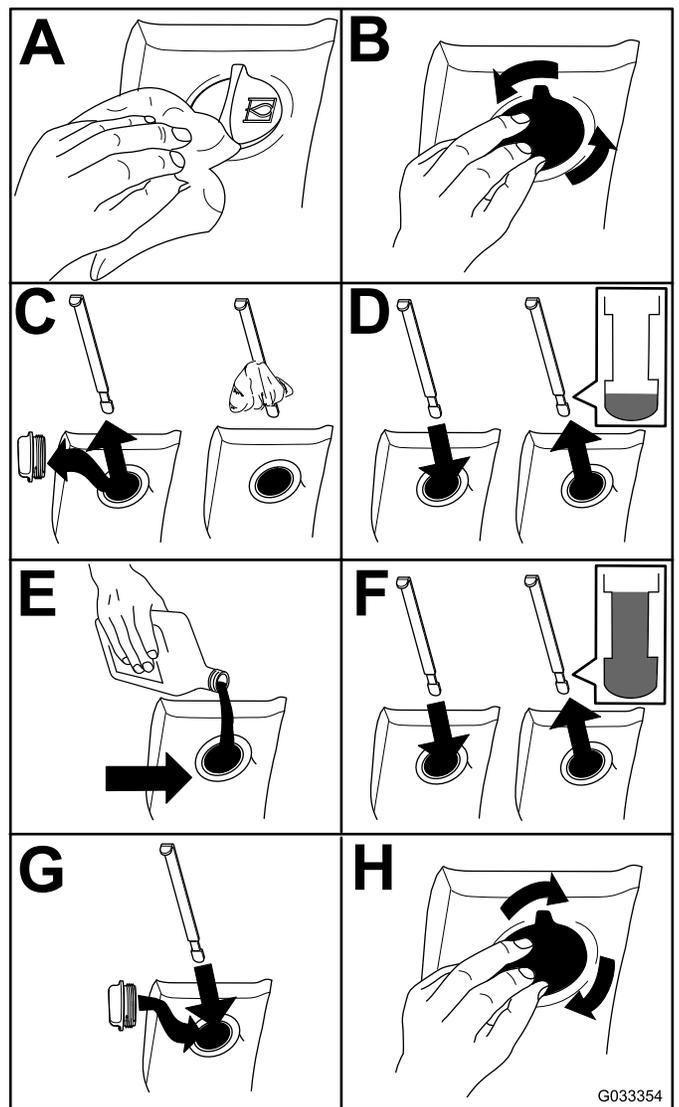

Figure 96
2. Check the hydraulic-fluid level (Figure 96).